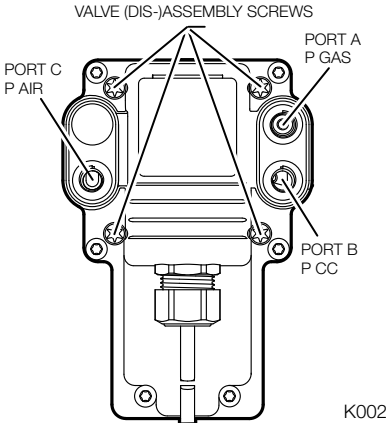

Fig. 5. FARMOD pulse line connections/ mounting.
2. Remove the original four (4) torx screws as shown in Fig. 5 and completely remove the Fuel Air Ratio Module from the valve body.
- Attach the 2 remaining pulse lines to the FARMOD ports A (gas) and port B (reference), following the instructions of the burner or boiler manufacturer. Refer to Fig. 5. Attach each pulse line to its corresponding fitting on the mixing unit or burner to the FARMOD.
- Use the tubing and fittings (purchased as separate kits) to connect the pre-filter "Out" port to the valve FARMOD port C (air). Refer to Fig. 2 and Fig. 5.